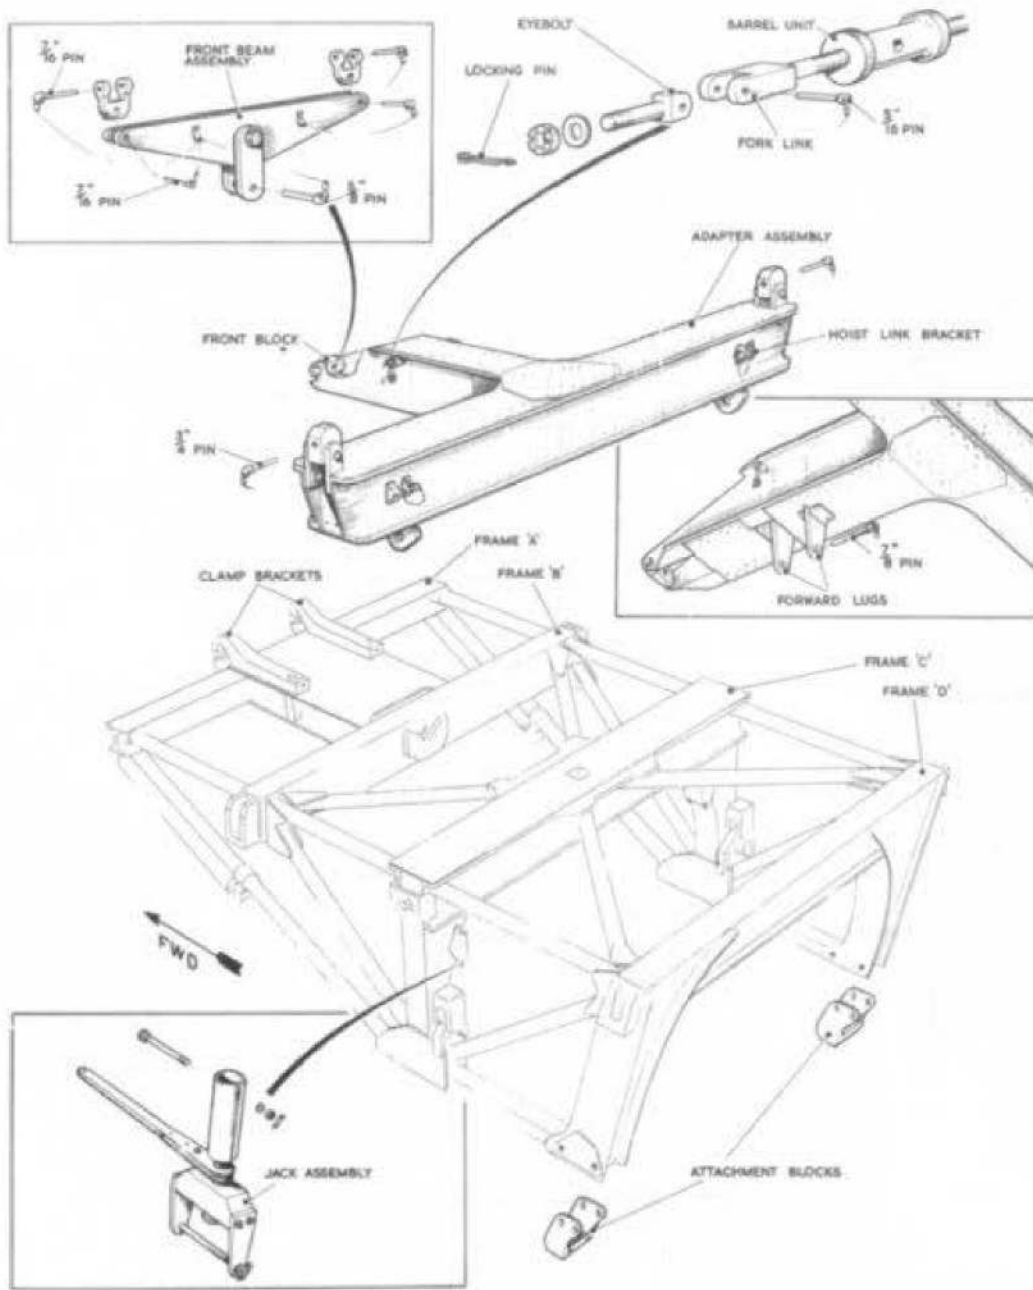

Fig.6. E.C.U. adapter set
- (1) Open the half-clamps on the brackets mounted centrally at frame A. (fig.6).
- (2) Release the pins from the base of frames C and D.
- (3) Fully extend the port and starboard jack assemblies.
- (4) Attach the jack assemblies to the brackets on frame C, ensure that the captive spanners are aligned forward, and remove the bolts from the jack bottom forks.
- (5) Ensure that the E.C.U. is securely installed in the trolley section.
- (6) Fit two sling bracket assemblies, one port and one starboard, on the top tubular members immediately to the rear of frame L.